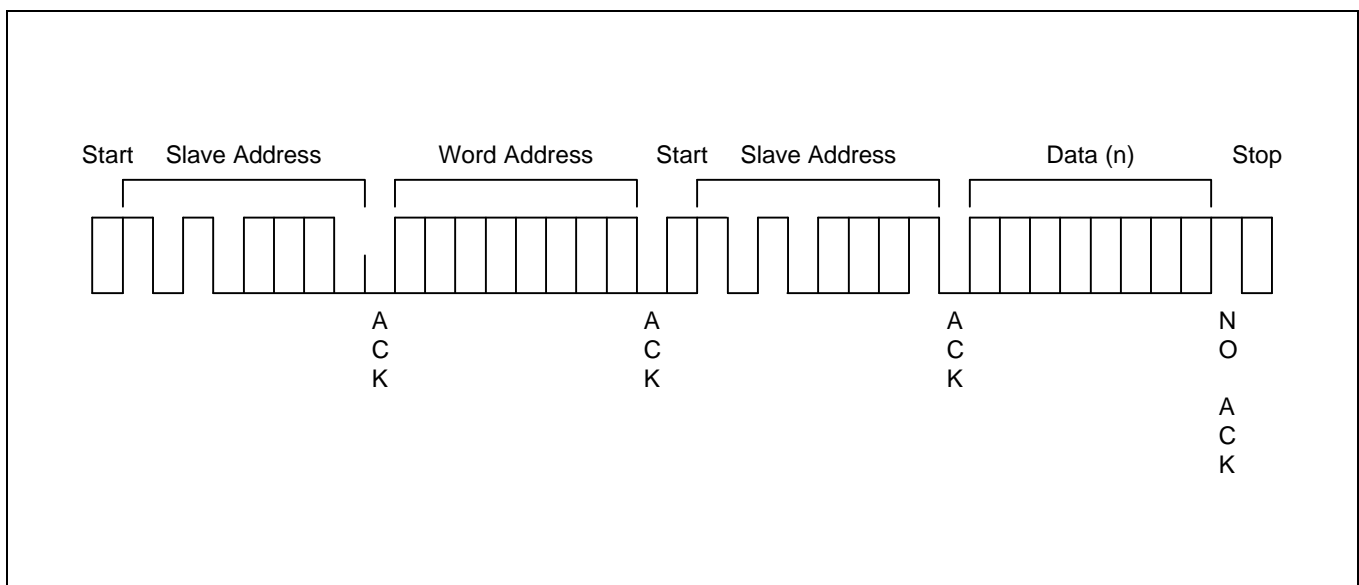

Figure 3-13. Random Address Byte Read Operation
5. In response, the S524C20D11/20D21/80D41/80D81 stops transmitting data and reverts to its stand-by mode (see Figure 3-13).